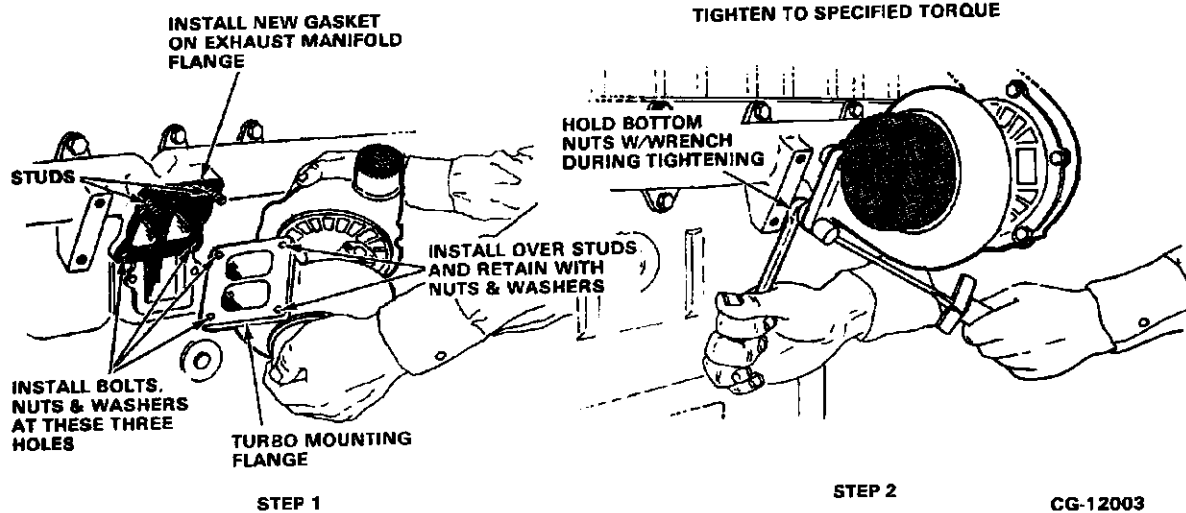

Figure 2.20. Mounting Turbocharger to Engine
3. Install the turbocharger on a clean exhaust manifold flange as follows: (Refer to Figure 2.20.)